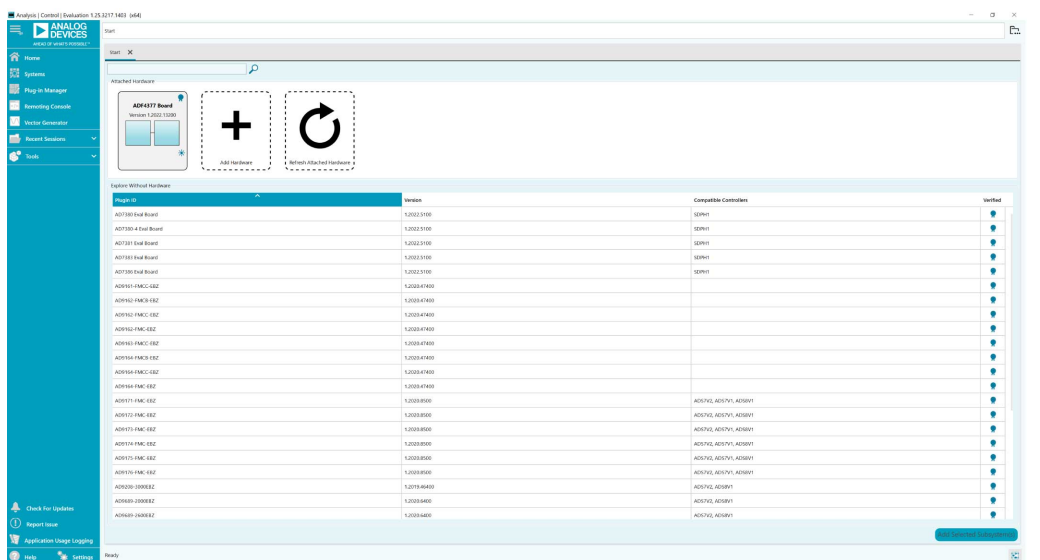

Figure 3. ACE Start Page, Attached Hardware (ADF4377 Board Button)
4. Check that the ADF4377 plugin appears when the EV-ADF4377SD1Z is attached through the system demonstration platform (SDP) connector to the PC, as shown in Figure 3.
2. On the **Select Device and Connection** tab, choose **ADF4377** and the EV-ADF4377SD1Z appears as shown in Figure 3 under **Attached Hardware**
1. Launch the ACE application. With the SDP-S board connected to the EV-ADF4377SD1Z, the attached hardware appears in the graphical user interface (GUI), as shown in Figure 3.